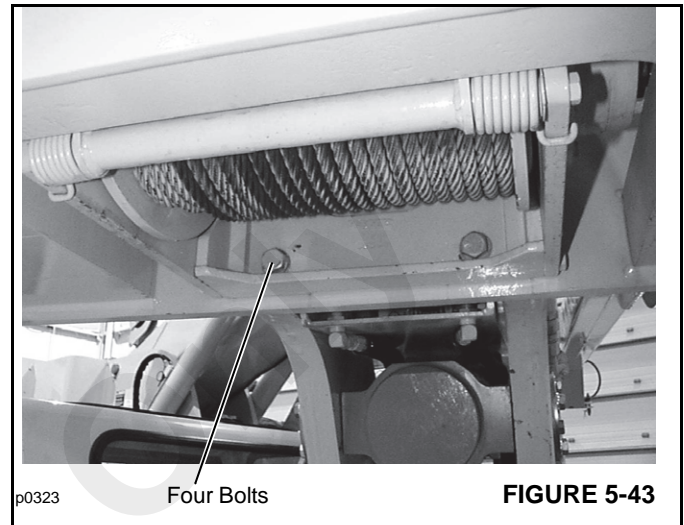

FIGURE 5-43
Torque the 3/4" mounting bolts (4) to 272 Nm (200 lb-ft). See Figure 5-43.